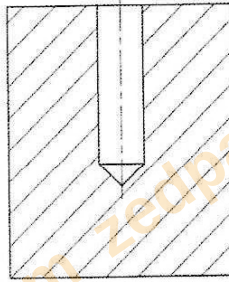

Figure 3
- 10 Name the hole shown in **figure 3**.